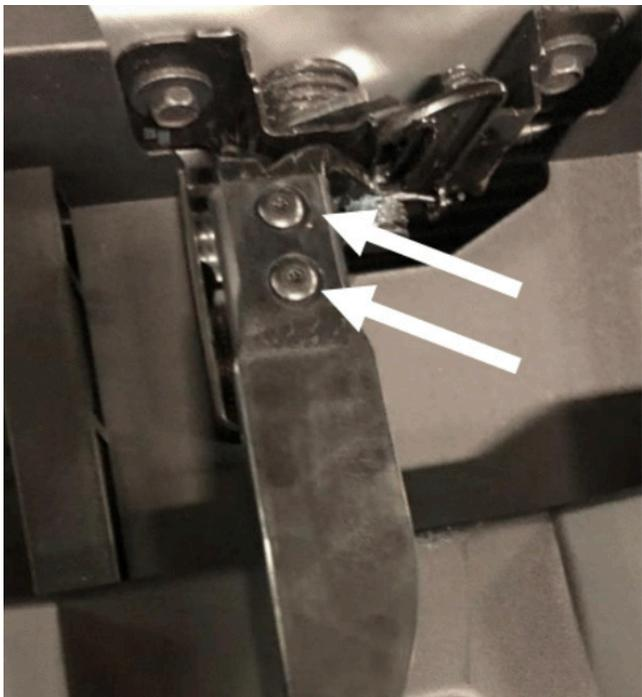

Figure 1
1. Using a T10 Torx bit, remove the two (2) screws in the hood latch handle to remove it. Figure 1